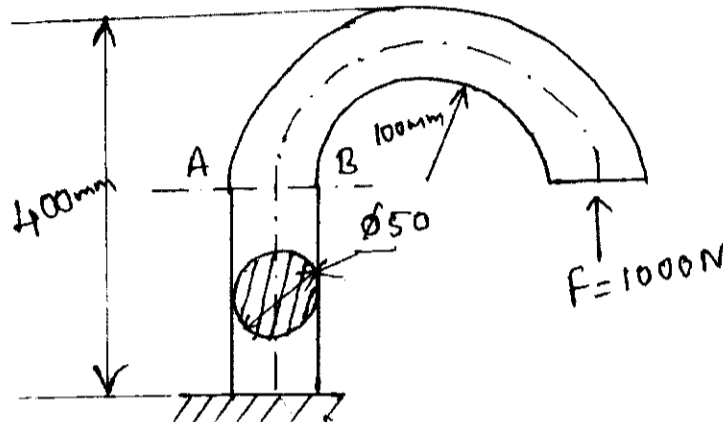

Fig. Q1 (a)
- 1 a. Determine the maximum tensile stress and maximum shear stress of the component shown in Fig. Q1(a) and indicate the location. **(10 Marks)**